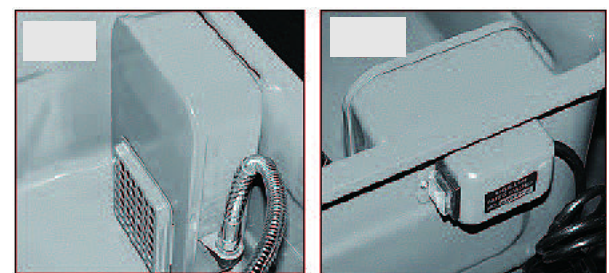

Fig. 8: Assembly TWG 80 and TWG 150
Step 8: Insert the pump power cord through the rectangular opening on the side of the tray. The power switch is visible through the rectangular opening (Fig. 8).